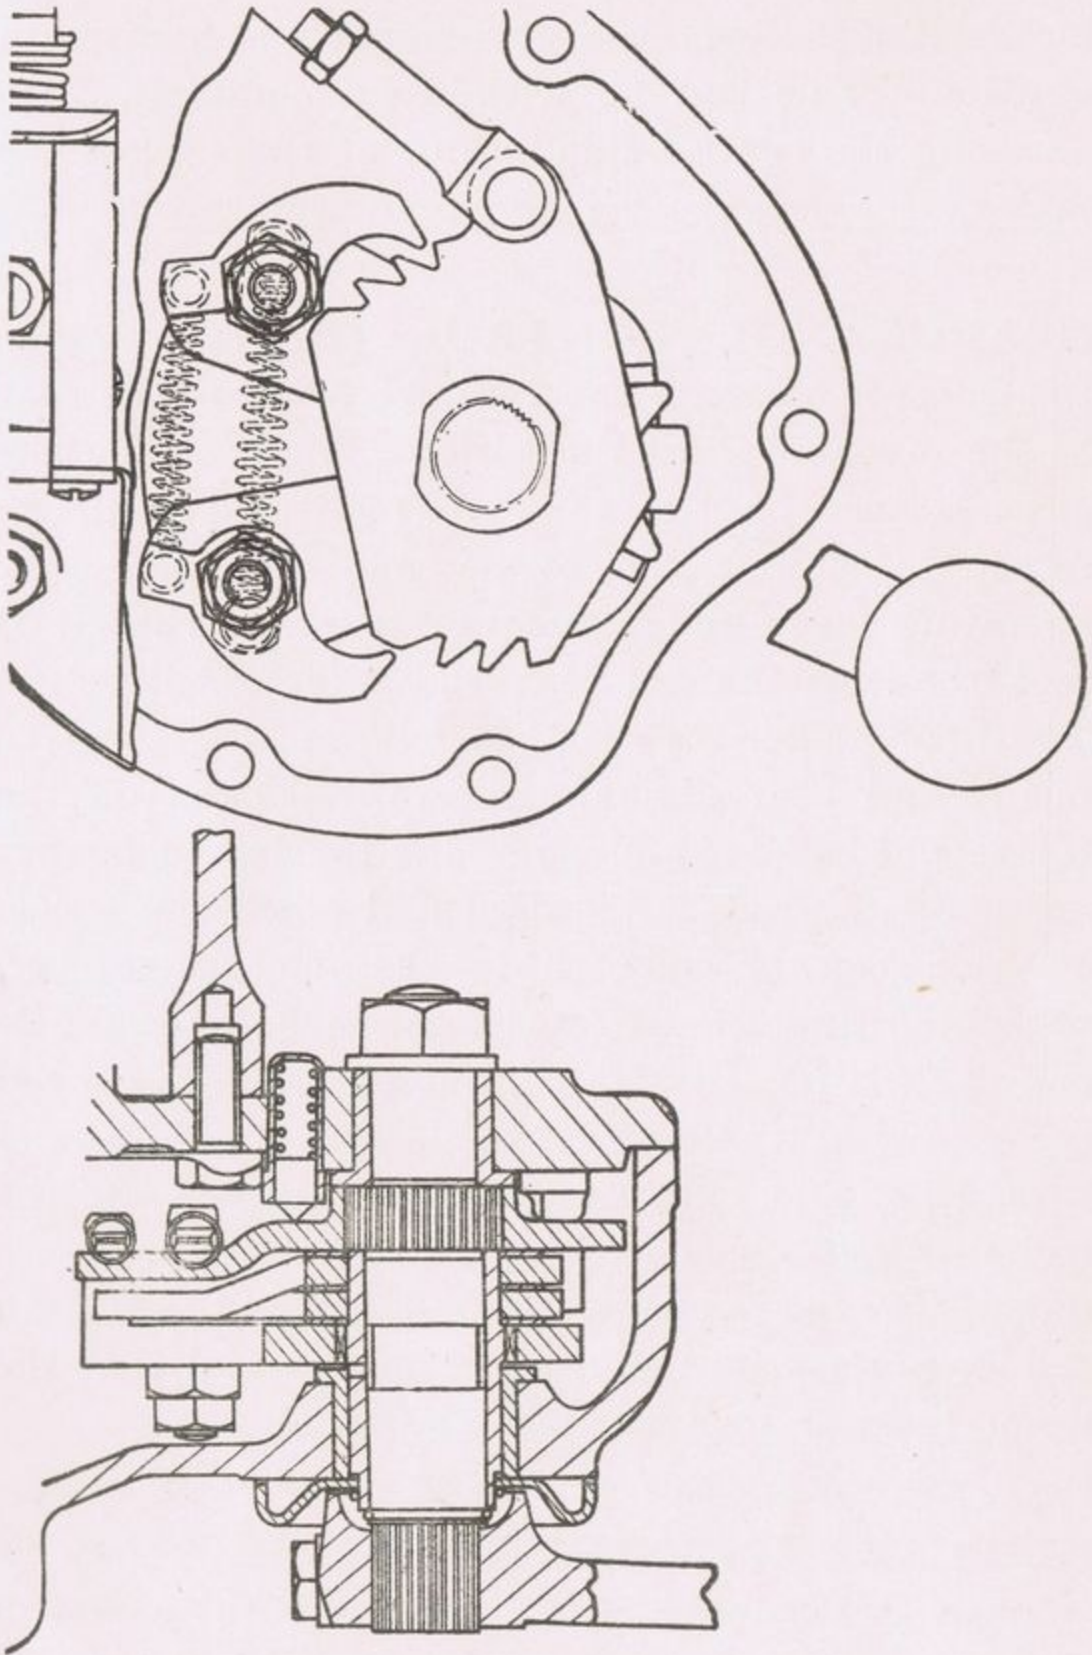

Fig. 21.
**FOOT GEARCHANGE**—enclosed in gearbox (Fig. 21). In general the previous instructions apply to this type except in the following particulars.